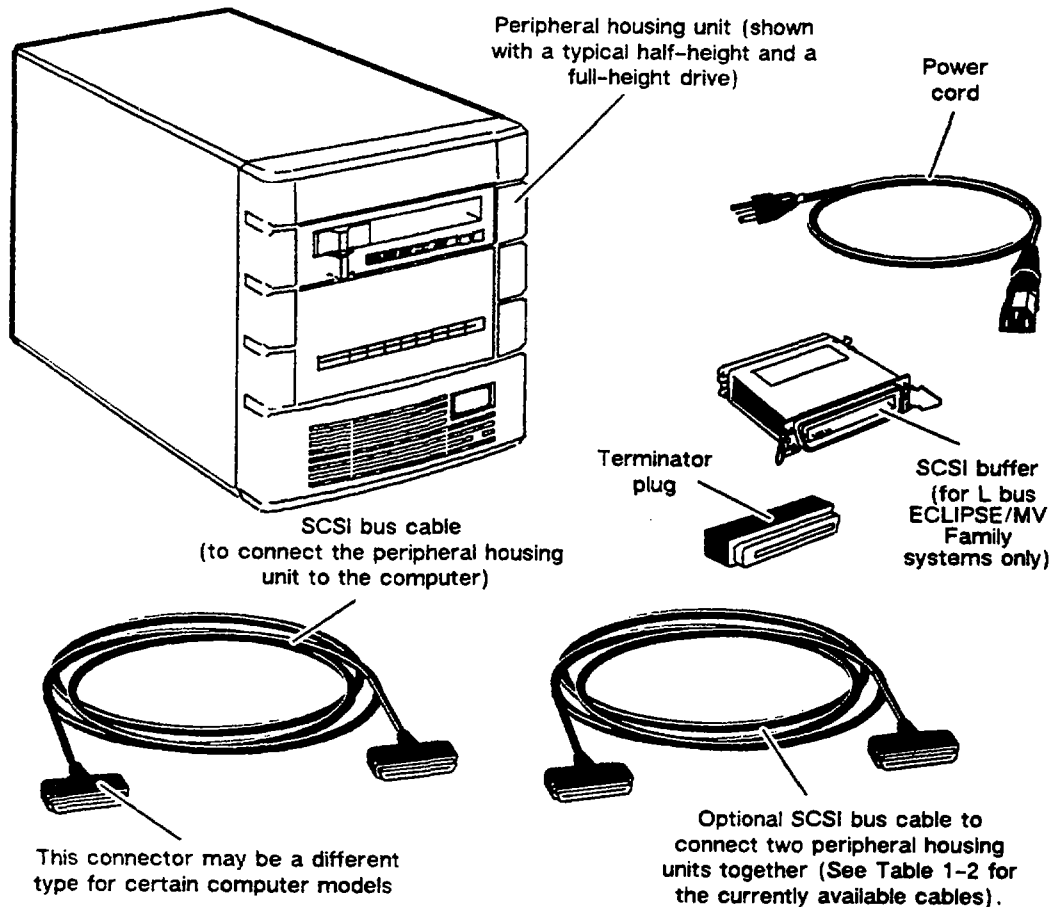

Figure 1-2 Parts and Equipment
3. Remove the packing slip from the outside of the shipping container and compare the part numbers and model numbers on the packing slip to those on the components and equipment removed from the container. Figure 1-2 shows the parts and equipment. Note that some of the parts are optional. If you discover any missing or incorrect parts, contact Data General as described in the Preface.